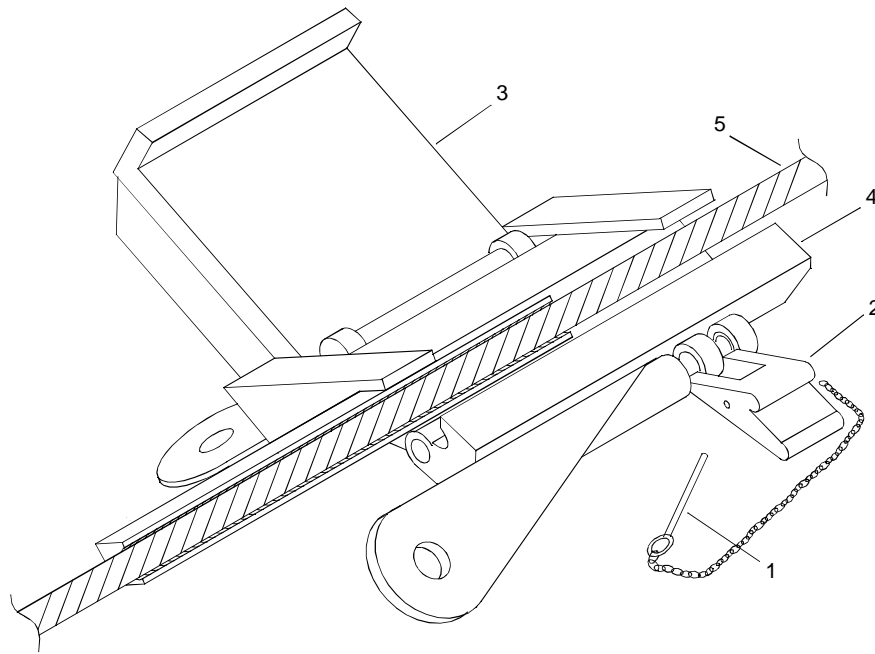
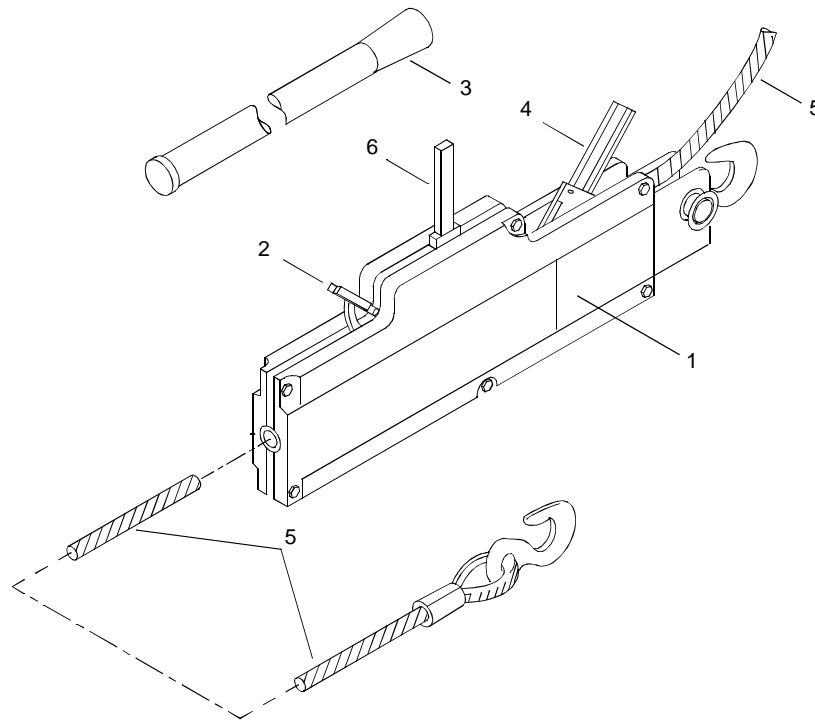
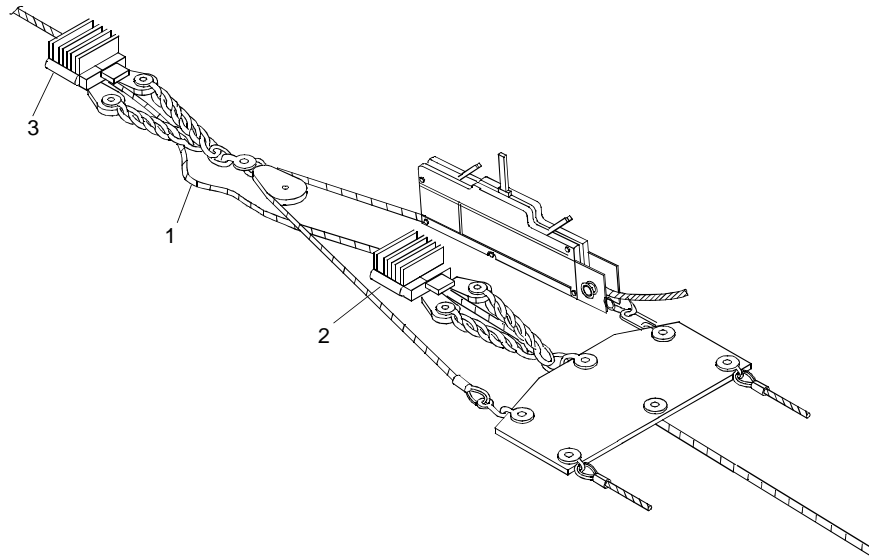

Figure 16. Carpenter Stop
Figure 17. Griphoist
Figure 18. Using Griphoist to Relieve Mooring Cable Tension Between Carpenter Stops
- c. Pull latch pin (figure 16, item 1), open latch (figure 16, item 2) and raise cover (figure 16, item 3) of carpenter stop (figure 16, item 4).
- d. Remove mooring cable (figure 16, item 5) from carpenter stop (figure 16, item 4).
- e. Close cover (figure 16, item 3) and latch (figure 16, item 2) and secure with latch pin (figure 16, item 1).
- a. Move wire rope release lever (figure 17, item 2) to the lock position by striking it with a sharp blow of the hand.
- b. Place operating handle (figure 17, item 3) on power stroke lever (figure 17, item 4).
- c. Work operating handle (figure 17, item 3) back and forth to pull hoist cable (figure 17, item 5) through griphoist (figure 17, item 1) to relieve tension on mooring cable (figure 18, item 1).
- d. When tension is relieved on mooring line (figure 18, item 1) between carpenter stops (figure 18, items 2 and 3), pull latch pin (figure 16, item 1), open latch (figure 16, item 2) and raise cover (figure 16, item 3) of carpenter stop (figure 18, item 2).
- e. Remove mooring cable (figure 16, item 5) from carpenter stop (figure 16, item 4).
- f. Close cover (figure 16, item 3) and latch (figure 16, item 2) and secure with latch pin (figure 16, item 1).
- g. Move wire rope release lever (figure 17, item 2) to the unlock position.
- h. Place operating handle (figure 17, item 3) on reversing lever (figure 17, item 6) to pay out hoist cable (figure 17, item 5) until hoist cable goes slack.
- i. Remove mooring line (figure 18, item 1) from other carpenter stop (figure 18, item 3).